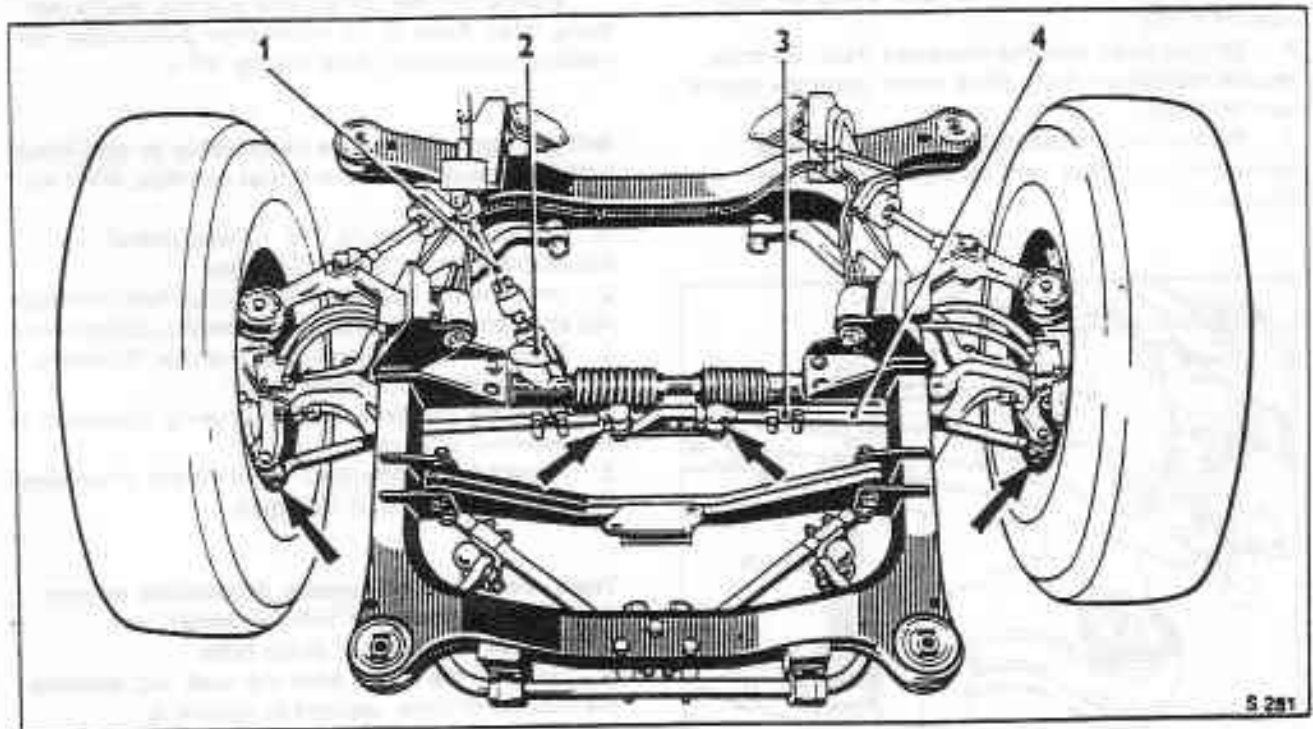

Fig. N5-1 Steering linkage (Applicable to cars fitted with replaceable ball-pin units)
Two types of track rod may be fitted. One type can be identified by its hexagon headed retaining plug as shown in figures N5-1 and N5-3.
It is possible with the track rod having the hexagon headed retaining plug, (see figs. N5-1 and N5-3) to dismantle the assembly and renew the necessary parts.
#### Ball-pin unit - To remove (Applicable to cars fitted with replaceable ball-pin units) see figs. N5-1 and N5-3
3. Fit the inner ball-pin downward into the inner ball joint bracket attached to the steering unit and the outer ball-pin upward into the side steering levers as shown in figures N5-1 and N5-2.